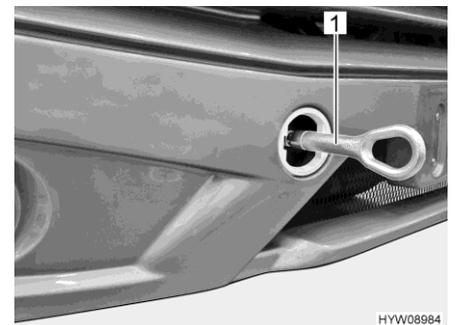

Fig. 41 Towing eye (mounted)
- Mount the towing eye (Fig. 41,1) in accordance with the instructions in the operating manual of the base vehicle.